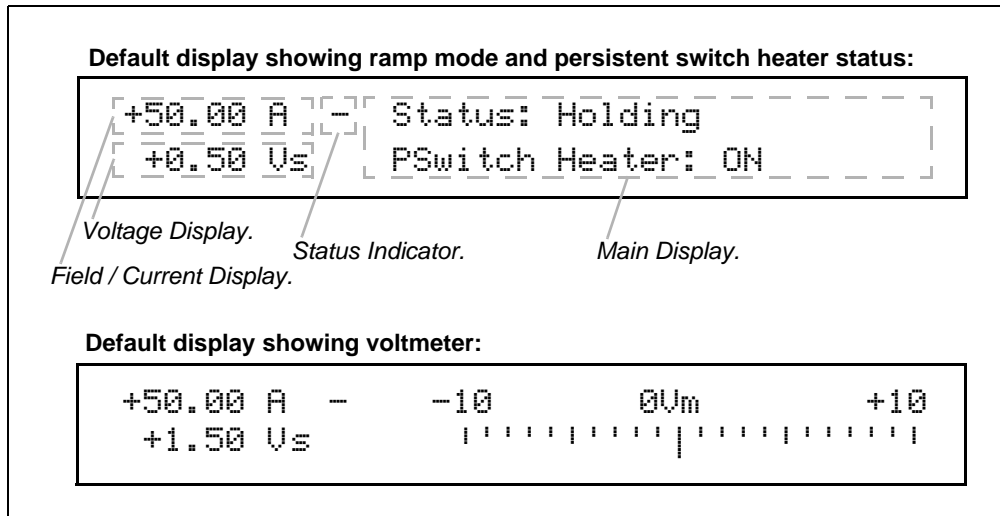

Figure 3-1. Default Display.
The field / current display indicates either the field strength or current¹. This is always displayed in the upper left corner of the display (see Figure 3-1), regardless of what else is being displayed on the Model 430 Programmer display. The parameter displayed (field or current) is toggled by pressing **SHIFT** followed by **FIELD <> CURRENT**. Thus, if field strength is being displayed, pressing **SHIFT** followed by **FIELD <> CURRENT** will cause the current to be displayed; conversely, if current is being displayed, pressing **SHIFT** followed by **FIELD <> CURRENT** will cause the field strength to be displayed. Operating current is always displayed in amperes (A). Operating field strength may be displayed in kilogauss (kG) or tesla (T) if a coil constant has been specified in the setup². If field strength is being displayed, the units (kG or T) in which it is displayed can be toggled by pressing **SHIFT** followed by **FIELD UNITS**.
1. The value is always displayed in current (A) when an installed persistent switch is in the *cooled state* since the value represents power supply current only, independent of magnet current/field.
The voltage display indicates either the voltage across the magnet (Vm) or the power supply output voltage (Vs). This is always displayed in the lower left corner of the display (see Figure 3-1), regardless of what else is being displayed on the Model 430 Programmer display. The parameter displayed (magnet voltage or power supply voltage) is toggled by pressing **SHIFT** followed by **Vs <> Vm**. Vm indicates the voltage measured across the terminals of the connected superconducting magnet. In order for the Model 430 Programmer to measure the magnet voltage, the magnet voltage taps must be connected to the Model 430. Normally this is done through the Magnet Station Cable provided by AMI (if the whole magnet system is provided by AMI). Vs indicates the Model 430 Programmer-controlled power supply output voltage.
The status indicator indicates the Model 430 Programmer operating status. It is always visible (except during a quench condition) and is displayed just to the right of the field / current display (see Figure 3-1). The status indicator may be one of six symbols indicating one of the seven states shown in Table 3-1.
The default main display (the rightmost portion of the display – see Figure 3-1) shows either a voltmeter indicating magnet voltage or ramp mode and persistent switch heater state. Ramp mode is displayed on the top line of the main display; it will be one of eight states, as shown in Table 3-6 on page 76. Persistent switch heater state is displayed on the bottom line of the main display. If the Model 430 Programmer has been setup for use with a persistent switch, it will indicate either ON or OFF for the persistent switch heater state; otherwise, it will display “No PSwitch Installed.”